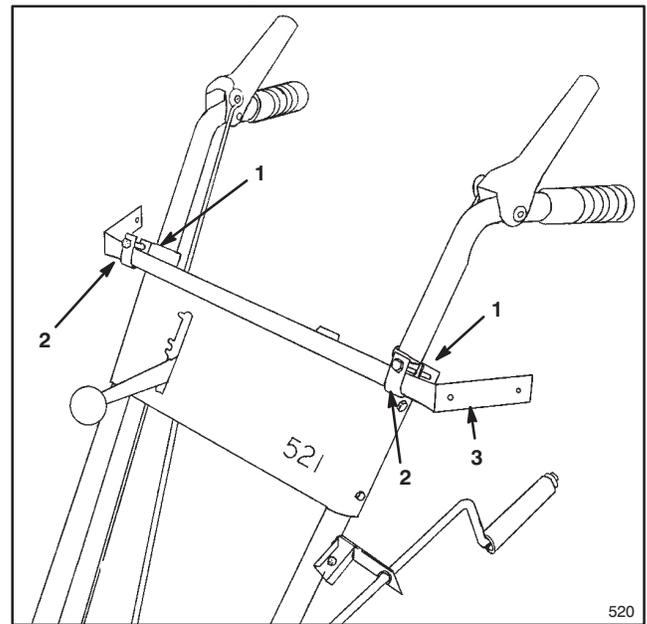

Figure 5
1. Place two $1\frac{1}{8}$ " U-clamps on the handle bars (open end to the outside). Place two $\frac{3}{4}$ " U-clamps on the cross bar (Fig. 5).